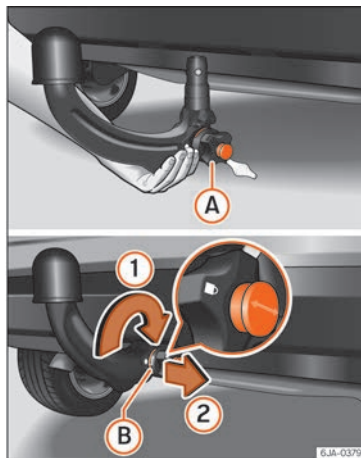

Fig. 236 Placing the ball-headed bar/locking and removing the key.
- Hold the ball-headed bar from underneath » **Fig. 236** and push it into the clamping bush as far as possible until you hear it click into place » **Δ**.